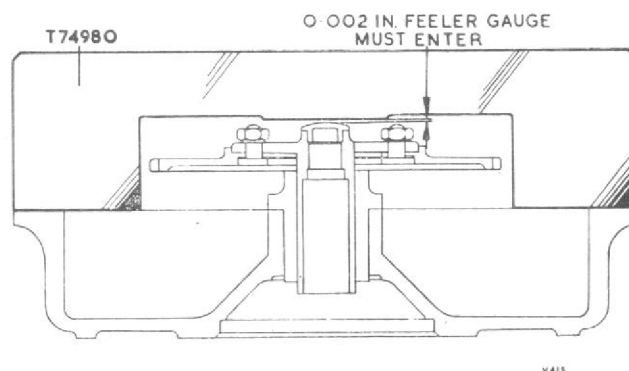

Fig. 6. Using gauge T74980 to check the end float clearance from the wheelcase face to the crown of the gear button
- (2) Using gauge T74980 (fig. 6), check the end float clearance between the crown of the gear button and the wheelcase face.
- (2) Using checking gauge T74980 (fig. 6), check the clearance between the crown of the gear button and the wheelcase face.